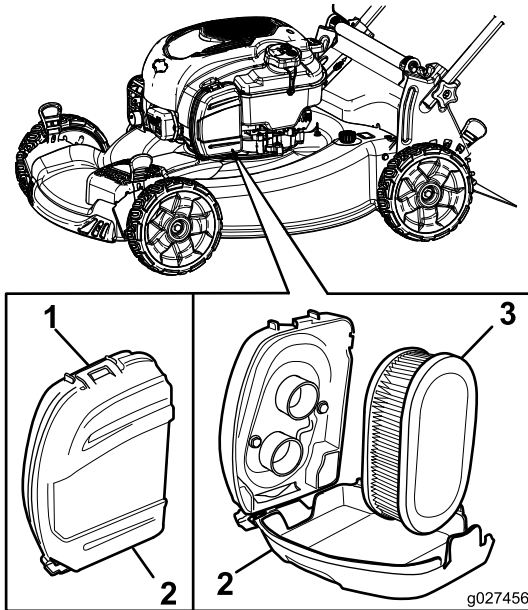

Figure 22
1. Uplclip the top of the air-filter cover (Figure 22).
2. Remove the air filter (Figure 22).